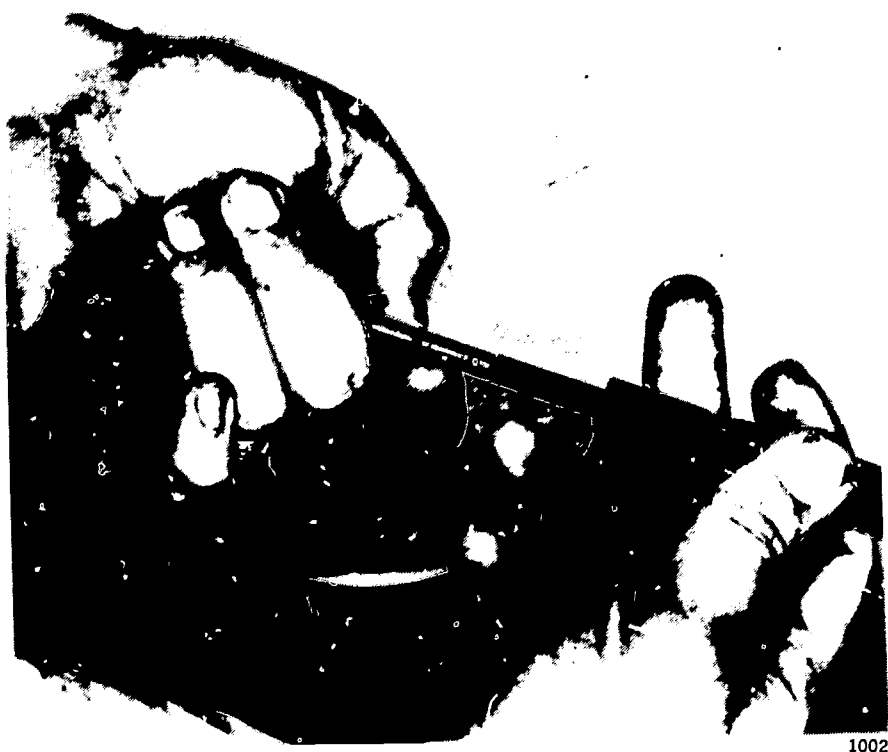

FIGURE 220. Measuring valve length with a micrometer.
8. *Measure the length of the valve with a large micrometer (Figure 220).*